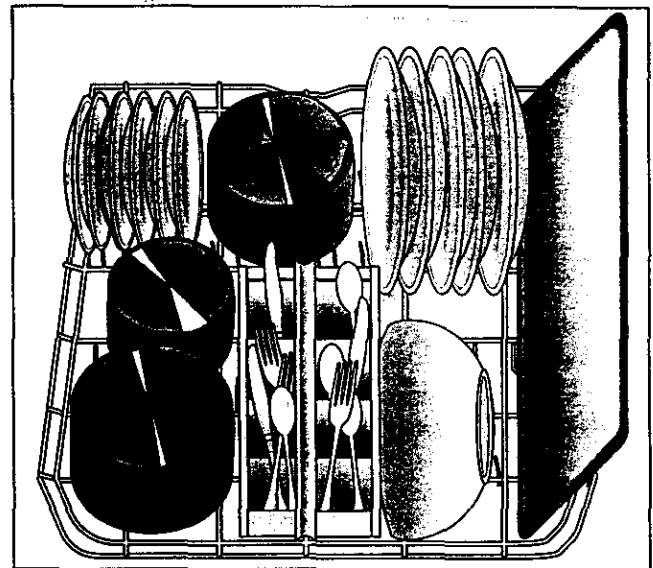

Figure 4.
- Large and/or heavily soiled items should be placed in the lower rack of the dishwasher. Heavily soiled pots and pans should be placed face down. See figure 4.